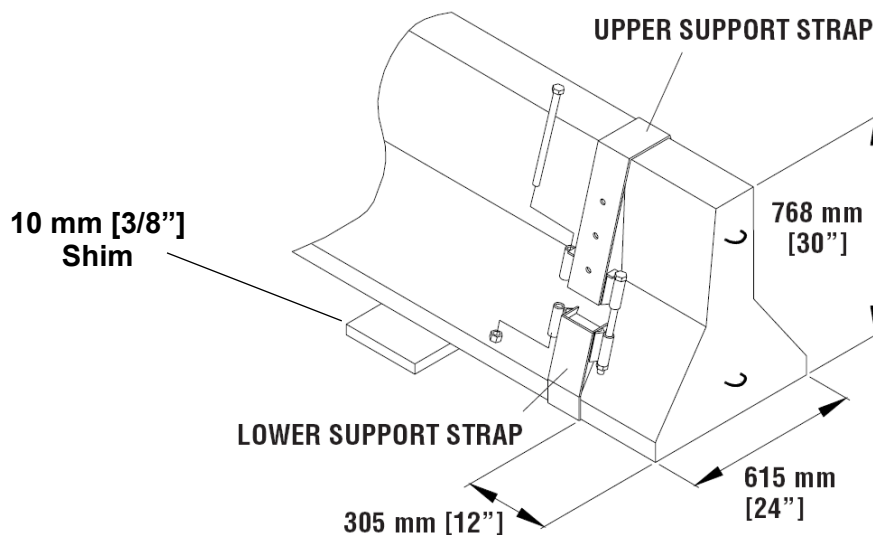

Figure 4
Step 2: Assembling the Support Strap (See Figure 4)